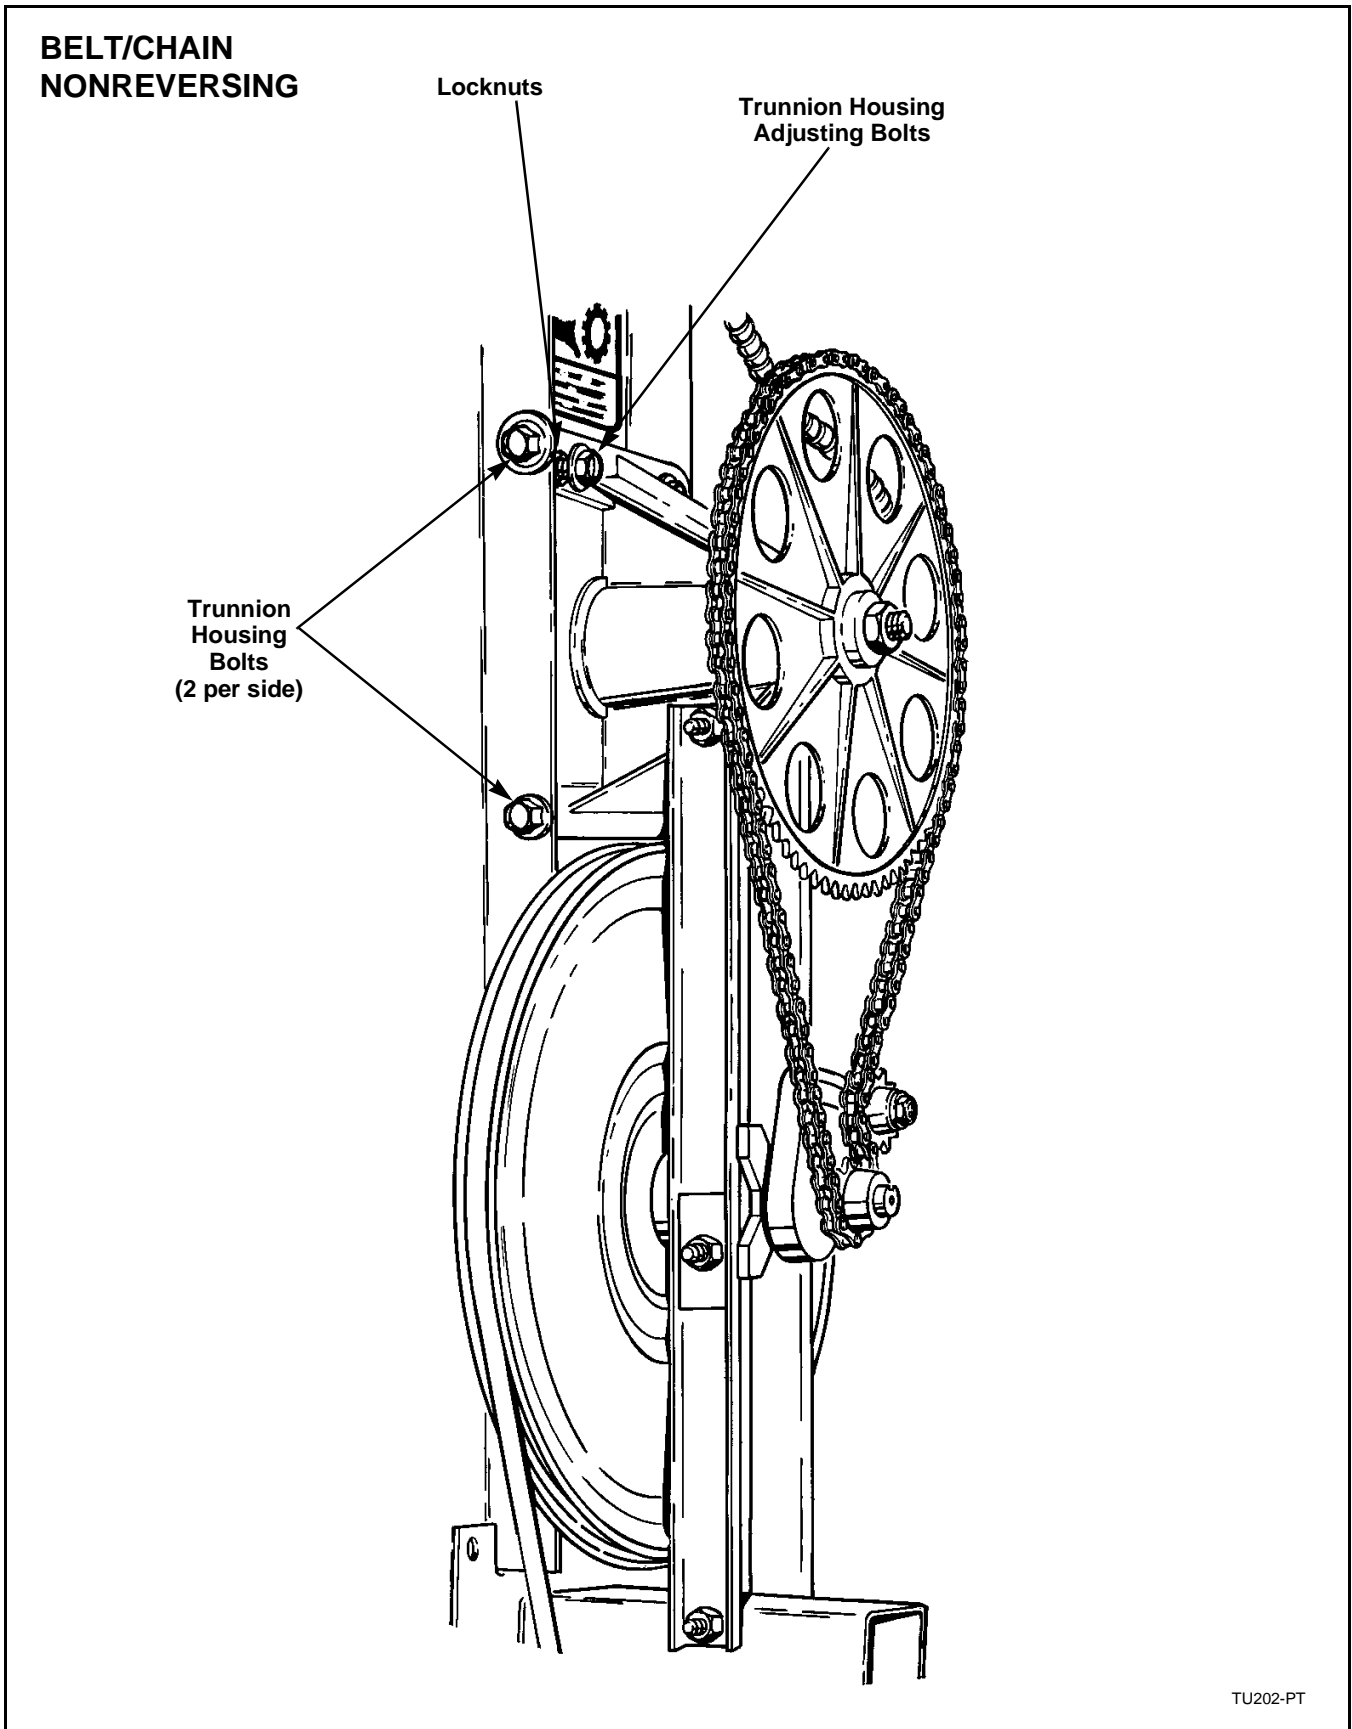

Figure 3
- c. Loosen the four trunnion housing bolts. Refer to *Figure 3*.
- d. Loosen the locknuts on the trunnion housing adjusting bolts. Refer to *Figure 3*.